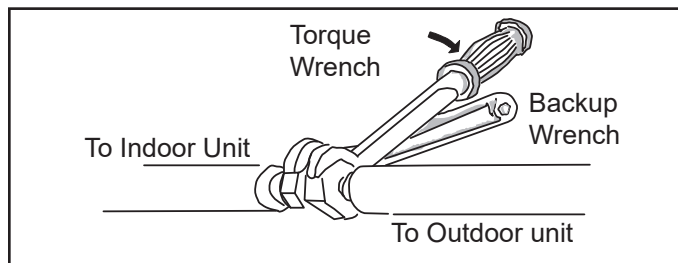

Figure 20. Tighten Flare Nut
6. Once snug, continue another half-turn on each nut which should create a leak-free joint. A torque wrench may be used to tighten flare nuts using table 2 recommendations. See Figure 20. **Do not over-tighten a flared joint. Flared connections should always be accessible and must be insulated to prevent condensation.**